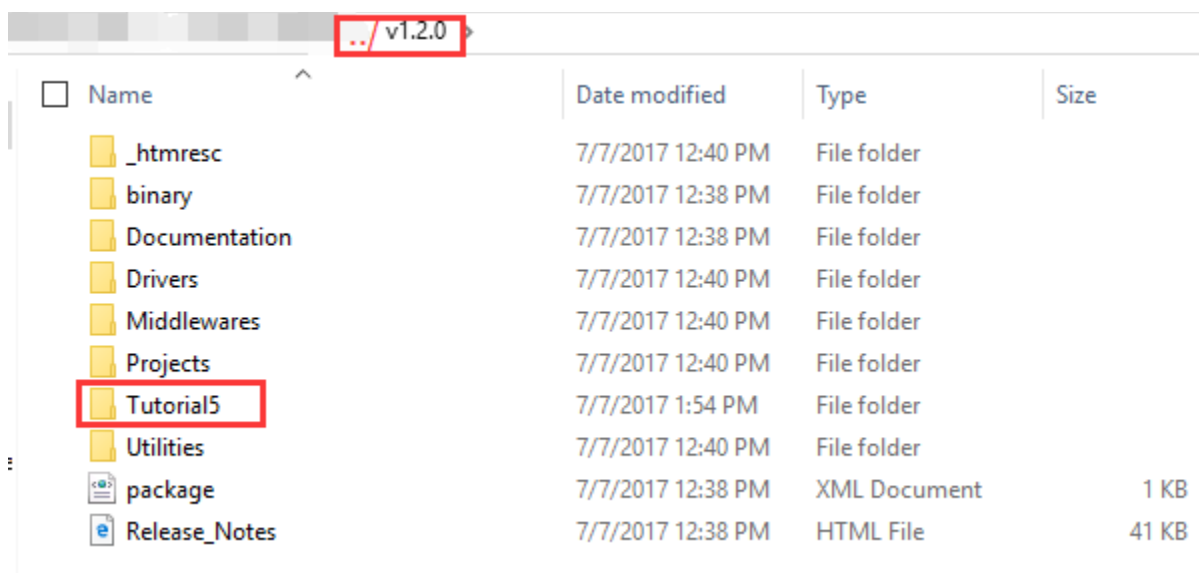

Figure 1: Add new directory into current project source file directory
1. Navigate to the local folder containing the STSW-STLKT01 package “**../v1.2.0/**” and create a subdirectory “**Tutorial5**”, as shown in Figure 1.